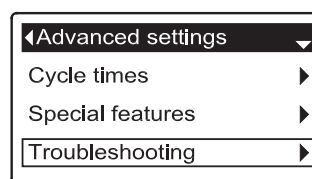

FIG. 85
1. From any of the rolling status screens, press the SELECT (O) button to display the **Main menu**.
3. Press the SELECT (O) button to display the Advanced settings menu (See Figure 85).